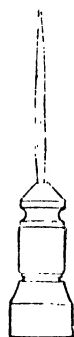
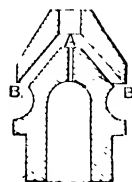

Fig. 5. Acetylene Burner giving Straight Jet Flame.
Fig. 6.—Section of Acetylene Burner giving Straight Jet Flame.
**Acetylene Cycle Lamp Burners.**—The burners employed in acetylene cycle lamps comprise the straight jet and the flat flame; steatite or some such non-conductor of heat is employed, although metal burners have been used, but they should be avoided. The straight jet flame (Fig. 5) is usually found in lamps of English make. It causes very little trouble, but does not produce quite as much light as the flat flame. Fig. 6 shows the straight jet burner in section. As the gas issues from the fine outlet at A it draws air through the lateral openings B, so that at the apex of the burner the base of the flame is surrounded by an outer envelope of air, which serves to keep it from contact with the burner, and thus, to a large extent, prevents carbonising—that is, the formation on the burner of a hard crust of carbon, which causes distortion of the flame. The